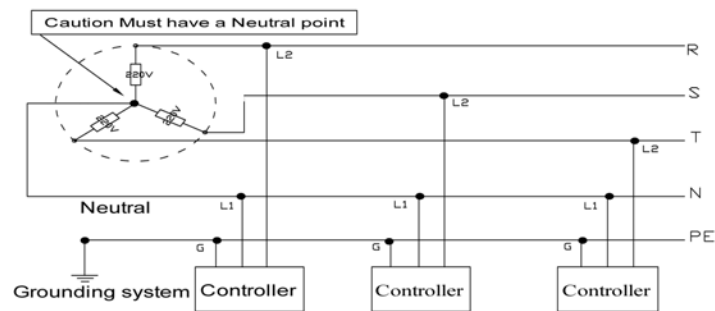

Fig. 3-2
**A 1Φ/220V power from a 3Φ/380V Power source Connection (See Fig.3-2):**